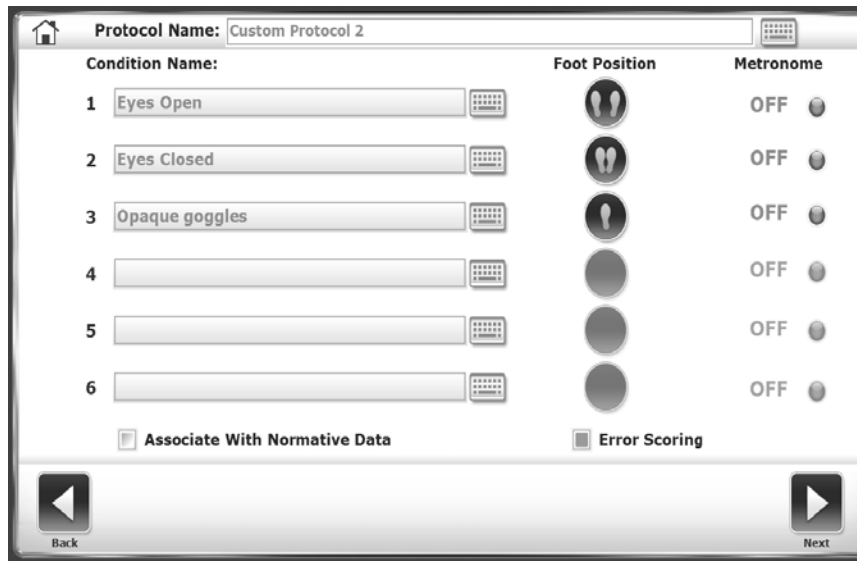

Figure 7.15. Specifying a Custom Sensory Integration Test.
8. Touch <Custom Sensory Integration> (see Figure 7.15).